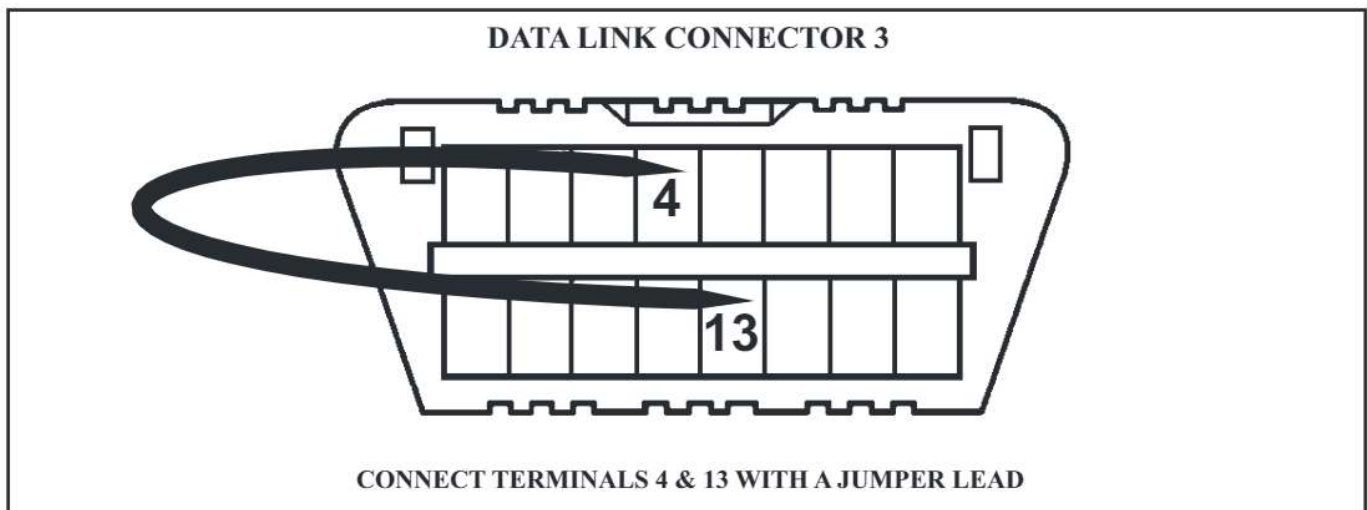

Figure 86
- 1 - Make certain transmission fluid temperature is between 104 to 194°F. Using a jumper lead, jump DLC3 terminals 4 and 13 as shown in Figure 86.